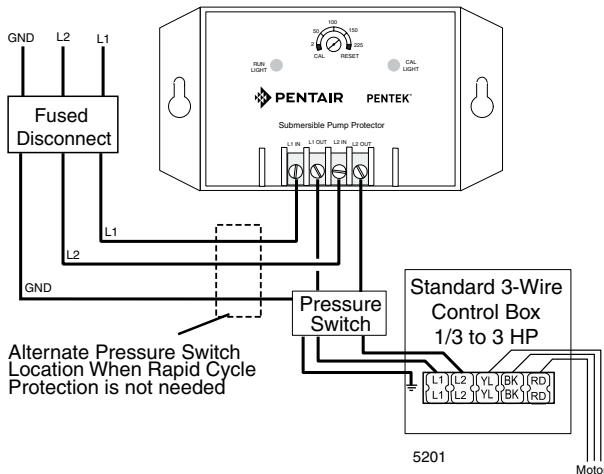

Figure 12-1: SPP233 Standard Control Box Connection Calibration/Settings
2. Connect the other line from the fused disconnect to Motor Protector "L2 IN" terminal. Run a wire from the "L2 OUT" terminal to the other in-line controls such as pressure or float switches. See Figure 12-1.